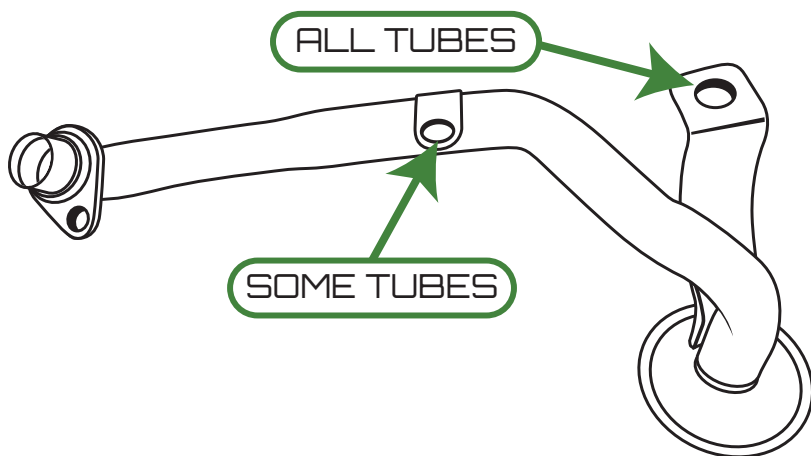

Figure 10 - Hole(s) to Enlarge on the Pickup Tube (Screen)
10. If using ARP main studs, enlarge the pickup tube (screen) mounting hole(s) with a $\frac{7}{16}$ inch (11 mm) drill bit. The hole(s) is shown in Figure 10.